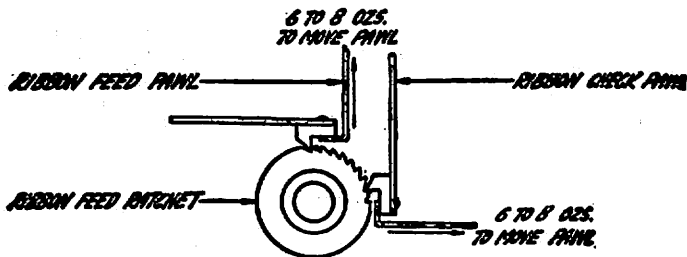

Fig. 29
- 4.47 Ribbon check pawl spring tension shall be min. 6 ozs., max. 8 ozs. measured as in Fig. 29.
- 4.49 Ribbon feed pawl spring tension shall be max. 8 ozs., measured as in Fig. 29.